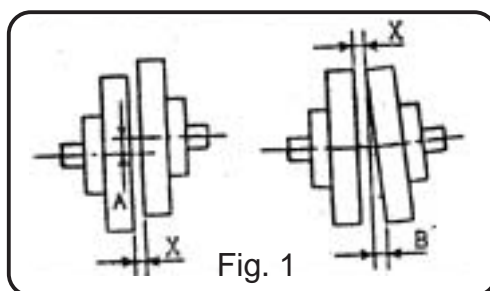

Fig. 1
- b) When the input shaft of the driven machine and the low-speed shaft (output shaft) of the geared motor are coupled directly, use a “flexible coupling” and make sure that both ends are in alignment. (Refer to Fig. 1)